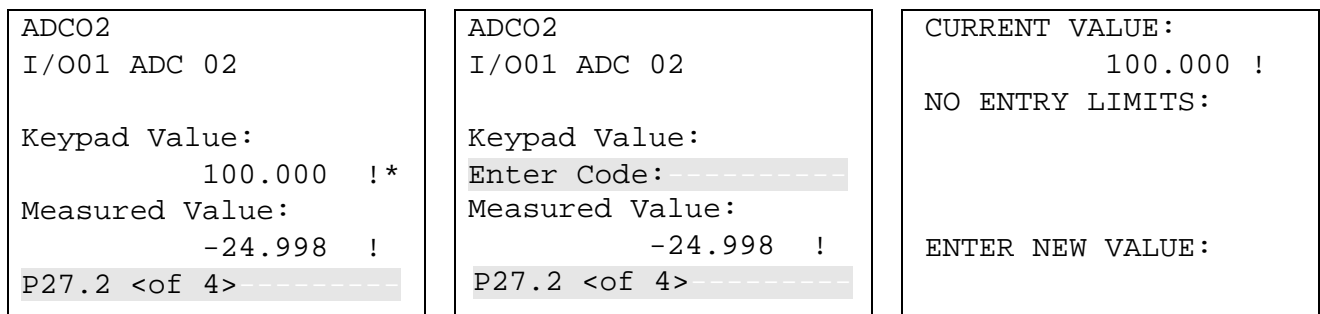

Figure 5-12. Changing a Display Value
1. Locate the display (shown at the left-most side of *Figure 5-12*) and press **CHNG**. The middle screen in *Figure 5-12* displays.
2. Enter a valid security code. Once you enter a valid code, the screen on the right-most side of *Figure 5-12* displays.